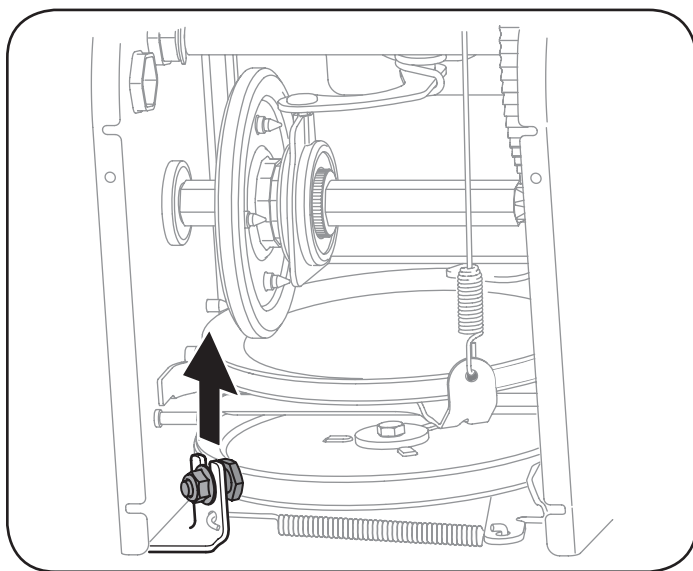

Figure 70
- Loosen and remove the shoulder screw which acts as a belt keeper. Refer to Figure 70.